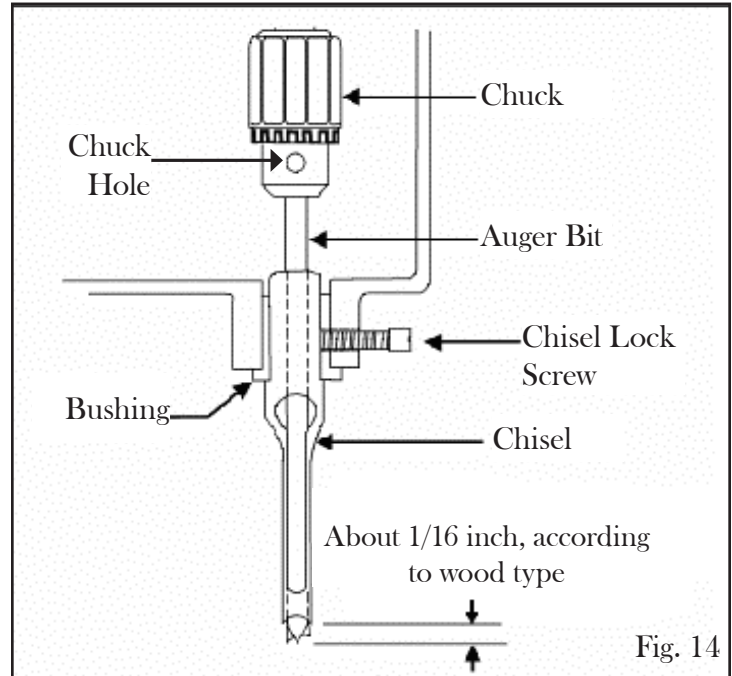

Fig. 14
5. Now time to tighten the auger bit. Grab the chuck key and fully insert the tip into the chuck hole (Fig. 14). Holding the chuck stationary while rotating the chuck key clockwise to fully tighten. Make sure to tighten all three chuck holes, so the pressure on the auger bit is distributed evenly.
You should now have the proper clearance space between the bit and chisel, with the auger bit protruding about 1/16 inch beyond the bottom of the chisel (Fig. 14).